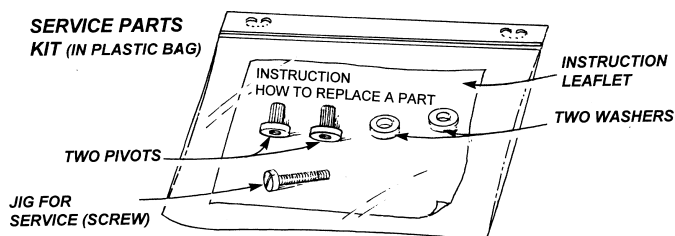

Fig 1
1. Order the Service Part Kit See Fig 1